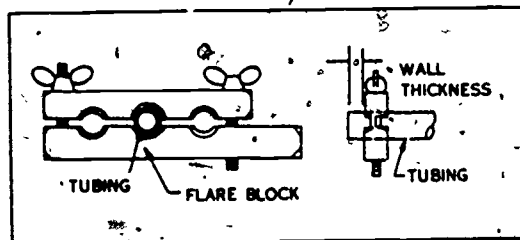
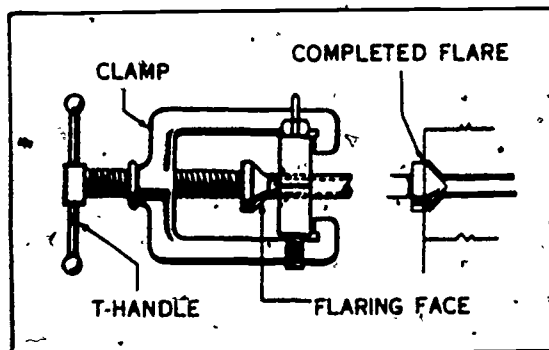

Figure 3-7. Placing tubing in a flaring block.
Figure 3-8. Positioning the clamp and making the flare.
a. **Flaring copper tubing with a flaring block.** Before a flare is made on tubing, slip the compression nut on the tubing and insert the end of the tubing into the correct size hole in the flaring block. Then extend the end of the tubing above the face of the block, the wall thickness of the tubing, as shown in figure 3-7. This procedure allows enough tubing to spread over the taper of the fitting. Next, attach the clamp to the flare block and center the flaring face over the end of the tubing, as shown in figure 3-8. Force the flaring face against the flaring block by rotating the handle on the clamp clockwise. This causes the end of the tubing to expand just enough to fit into the compression nut and over the end of the fitting.